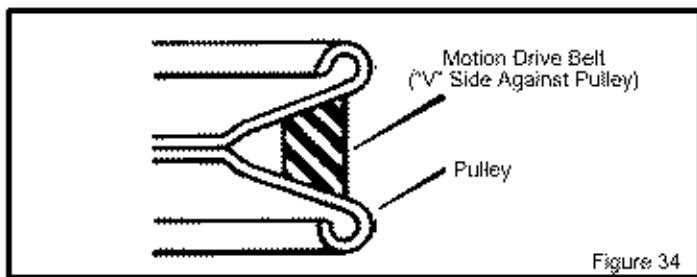

Figure 34
1. Slide the motion drive belt between the **slack pulley** and the **belt guide**. Install the motion drive belt on the top pulley of the **slack pulley**. Make sure the "V" side of the belt is against the pulley (Figure 34).